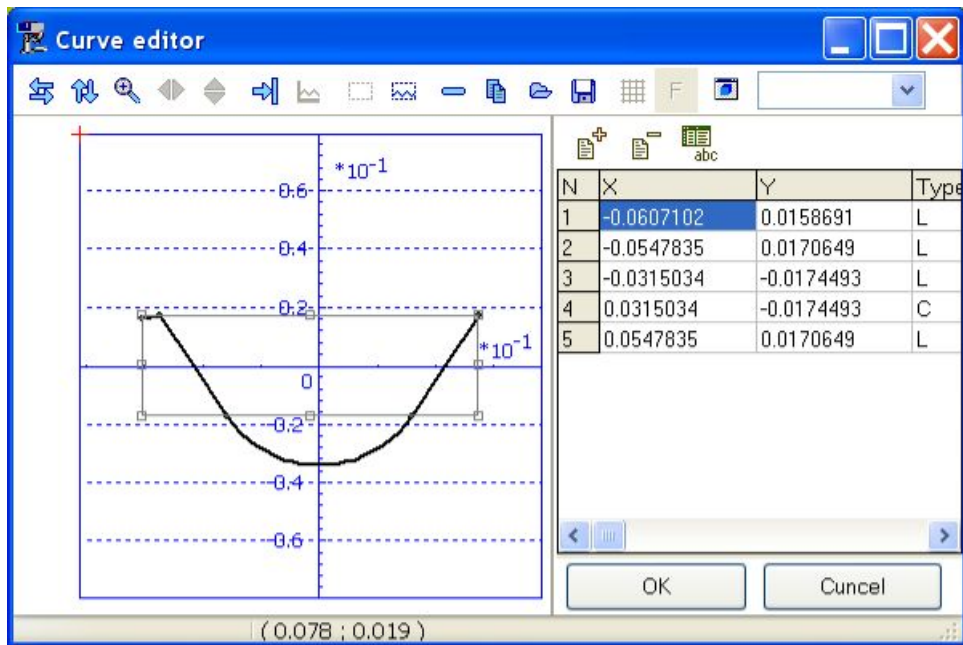

Fig. 13 Tooth profile
- open the editor by the button, Fig. 13